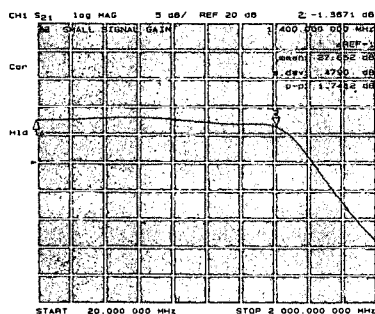

Figure 4. Small signal gain measurement.
Small signal gain is the gain in the amplifier's linear region of operation. This is typically measured at a constant input power over a swept frequency. Figure 4 shows an example swept frequency gain measurement.
6. Measure the gain variation or ripple in the frequency range. Set two markers on the trace to define the start and stop of the frequency range of interest, then use the marker statistics function to view peak-to-peak ripple (see Figure 4).